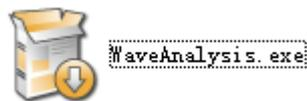

Fig. 1-1
**Step one :** Insert the CD-ROM supplied with your oscilloscope into the CD-ROM drive of the computer. Wait for the system to read and find the waveform analysis software contents (Fig. 1-1).
**Step two :** Double left click the mouse to run the waveform analysis software installation as shown in Fig. 1-1. A screen for language selection will pop up, as shown in Fig. 1-2. Use the pull-down menu to select language.